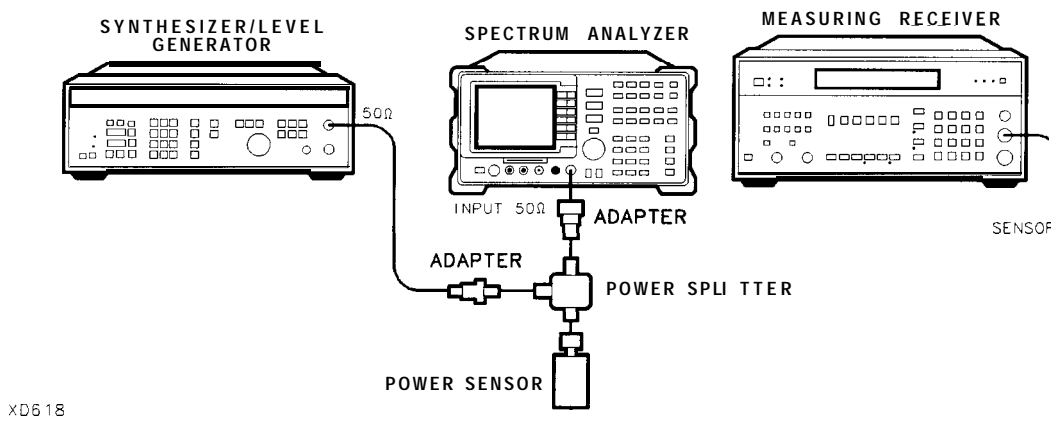

Figure 2-37. Frequency Response **Test Setup**, <50 MHz
34. Connect the equipment as shown in Figure 2-37, with the power sensor connected to power splitter.